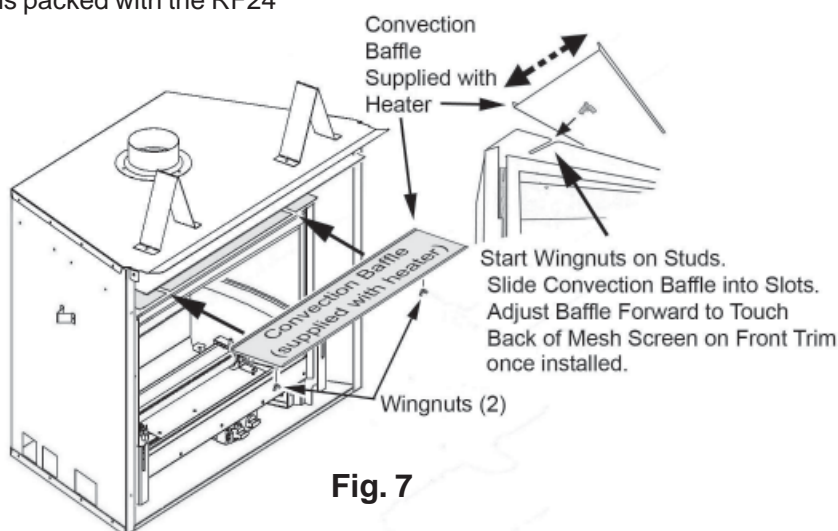

Fig. 7
3. Slide the convection baffle supplied with the heater into the slots at the top and tighten the wingnuts. **See Fig. 7.**